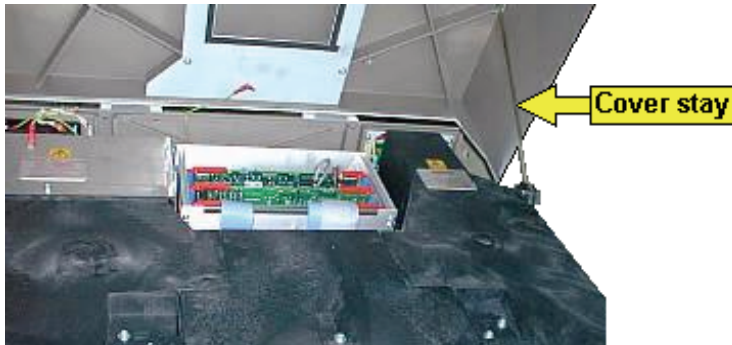

Figure 116 Cover stay
5. Lift the main cover and rest it on the stay located on the right-hand side, as shown in Figure 116.